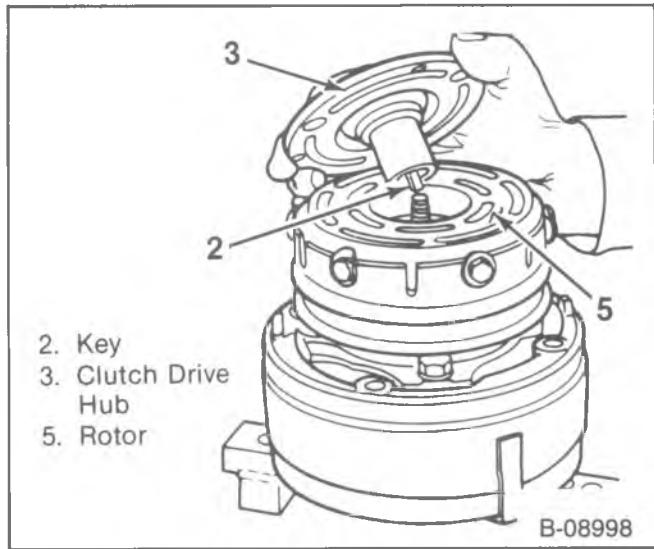
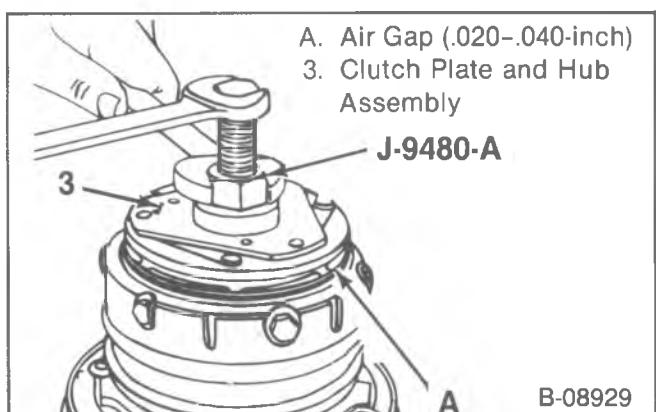

Figure 5—Installing the Shaft Key
Figure 6—Installing the Clutch Plate and Hub Assembly
1. Shaft key (2) (figure 5).
- Allow the shaft key (21) to extend 4.8 mm ($\frac{3}{16}$ -inch) out of the key way.
- The shaft key (2) is curved slightly to give an interference fit in the groove.
2. Clutch drive hub (3) (figure 6).